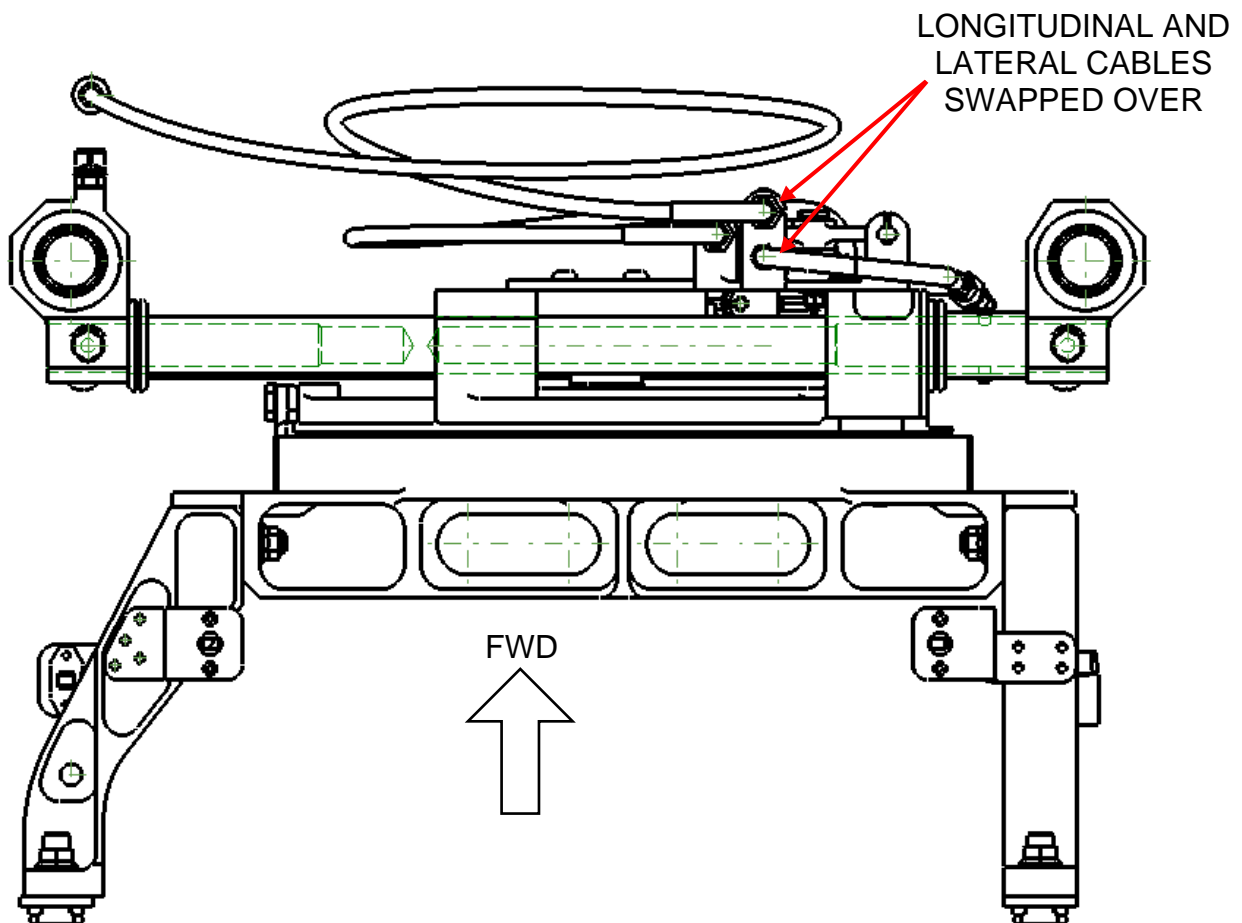

FIGURE 6
- c. Disconnect the longitudinal lock cable (7-20) from the cable splitter assembly (7-120, 7-125) and install the longitudinal lock cable (7-20) in the lateral brake cables (7-10A) position as shown in figure 6.
- d. Install the lateral brake cable (7-10A) in the longitudinal lock cables (7-20) position as shown in figure 6.